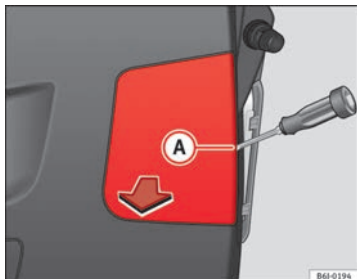

Fig. 171 Lights on the tailgate
- Remove the lid with a flat screwdriver, placing it in notch **(A)** ⇒ fig. 171.